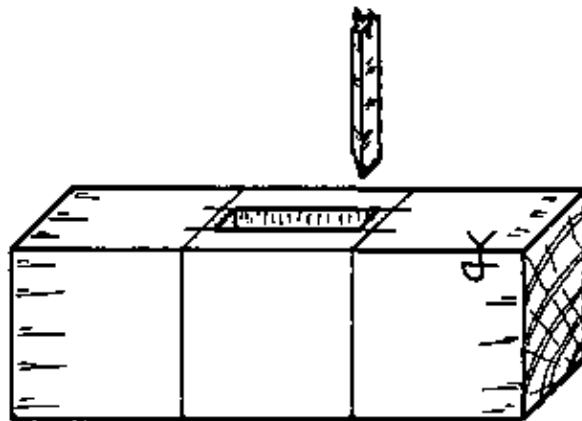

Fig. 7
– Chop out the remaining waste, chiselling halfway through from both edges. Leave about 2 mm extra to prevent damage to the sides of the mortice during chiselling (Fig. 7).